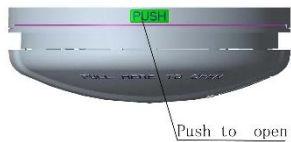

Fig. 3 – Press PUSH to unhinge base
1. Unhinged the heat alarm from the base by pressing the PUSH button located on the side of the base part (see Fig. 3).